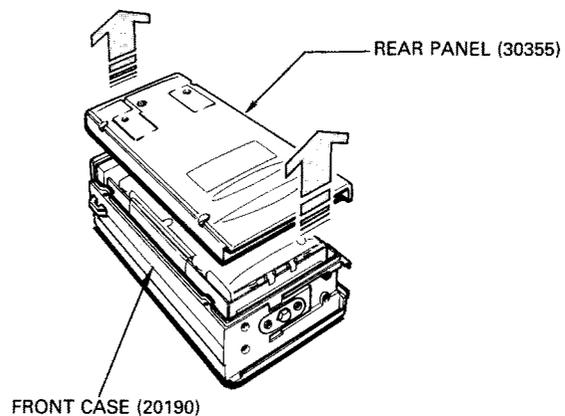

Fig. 6-1-2
3. Remove the REAR PANEL as shown in Fig. 6-1-2.